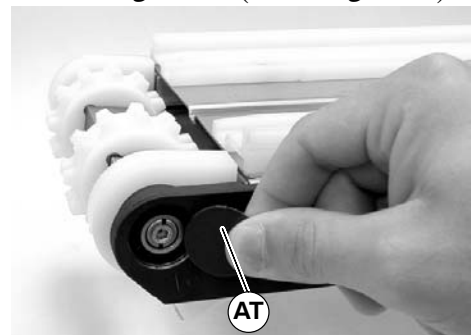

Figure 57
7. Install bearing covers (AT of Figure 57).